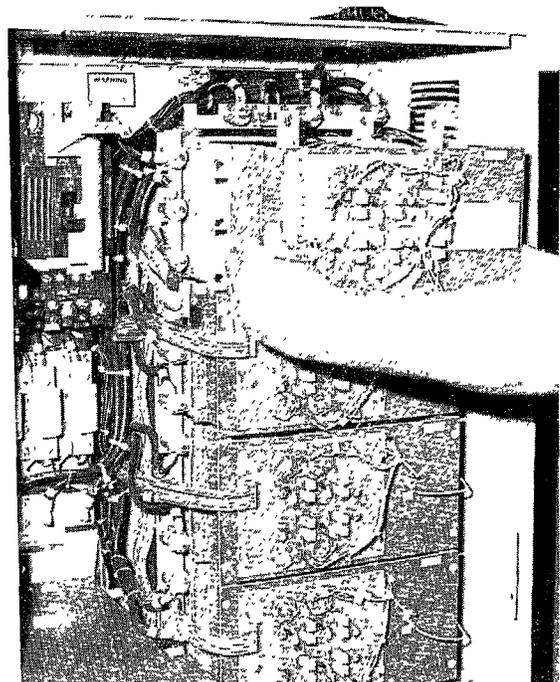

FIGURE 10
5. Remove the nine (9) nuts and washers from the power connectors:
6. Carefully pull module out of the rack using the red plastic insulation cover in front of the module (See Fig. 10).